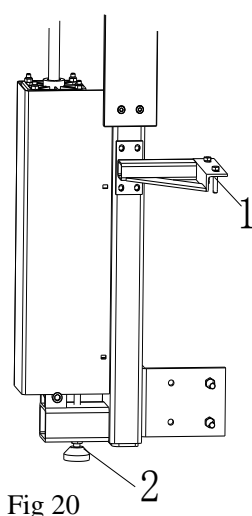

Fig 20
- 2) Install the column on the body with four screw 1; Adjust support 2 to right position (Fig 20)